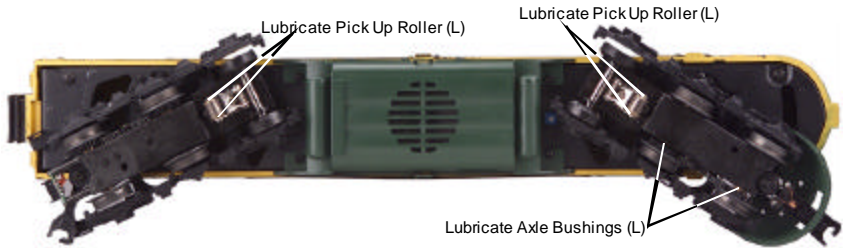
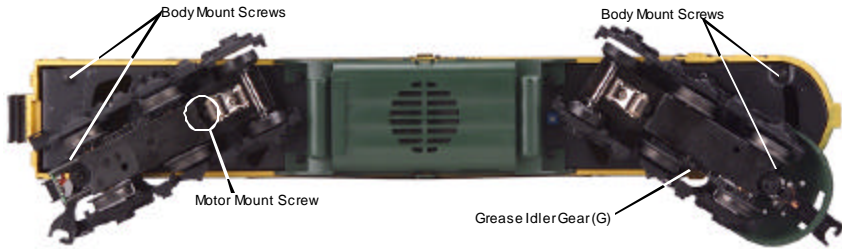

Figure 6. Lubrication Points on the Locomotive
Figure 7. Location of Body Mount Screws and Greasing Points on the Locomotive
1. Although the engine was lubricated at the factory, it is important that you lubricate the chassis before operation. Lightly grease the outside idler and drive gears marked “G” in Fig. 7 on pg. 13, with lithium-based grease to prevent them from squeaking. Use light household oil and follow the lubrication points marked “L” in Fig. 6 on p. 12. Do not over-oil. Use only a drop or two on each pivot point.
You should regularly lubricate the engine to prevent it from squeaking. Use light household oil and follow the lubrication points marked “L” in Fig. 6. Do not over-oil. Use only a drop or two on each pivot point.
1. To access the gear box, remove the cab from the chassis by unscrewing the chassis screws as seen in Figure 7 and lifting the cab from the chassis.
2. Once the cab is removed, remove the trucks by unscrewing the black Phillips motor mount screw located on the underside of the drive trucks (see Fig. 7).
Lubricate the outside truck block idler and drive gears with grease. Use the diagram shown in Figure 6 below as a guide and add grease to the points marked with a “G.”
B. Remove the trucks from the chassis and the truck sides from the trucks in order to slip the new tire over the grooved drive wheel. See Fig. 7 for which screws you must remove to do this.